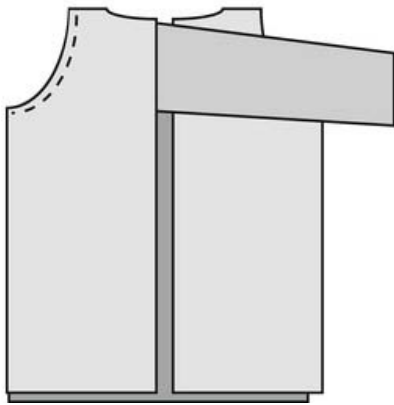

Figure 9-5. Turn the arm inside out and stitch it together with the body piece
3. This third step might be a bit confusing, so take your time and make sure you have it right before you start stitching. It's time to sew the arms to the rest of the body piece. You do this by turning the arms inside out and add them from the inside of the body piece, as shown in Figure 9-5. Then line up each arm with the hole for the arm in the body piece and pin it in place. Next, stitch around the end of the arm. The outside of the body and arm fabric should be facing each other before you start stitching.